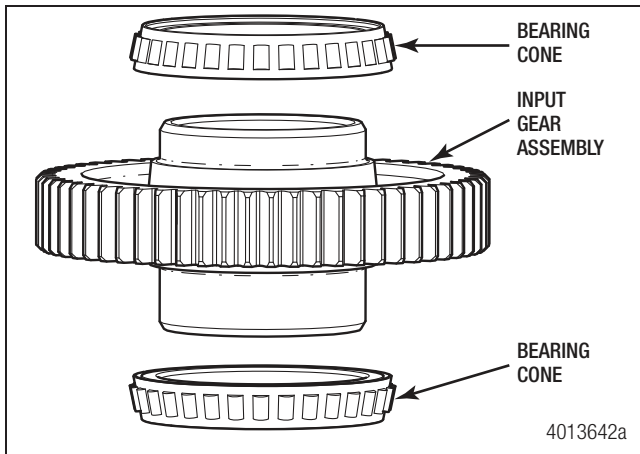

Figure 6.25
2. Place the bearing cone onto the end of the input gear assembly with the appropriate end facing UP. Use driver #5 and a press to push the bearing cone DOWN until it is fully seated. Refer to "Tools" on page 60 for a tool drawing. Only press on the inner race of the bearing cone. Ensure the bearing cone is correctly seated. Figure 6.25.